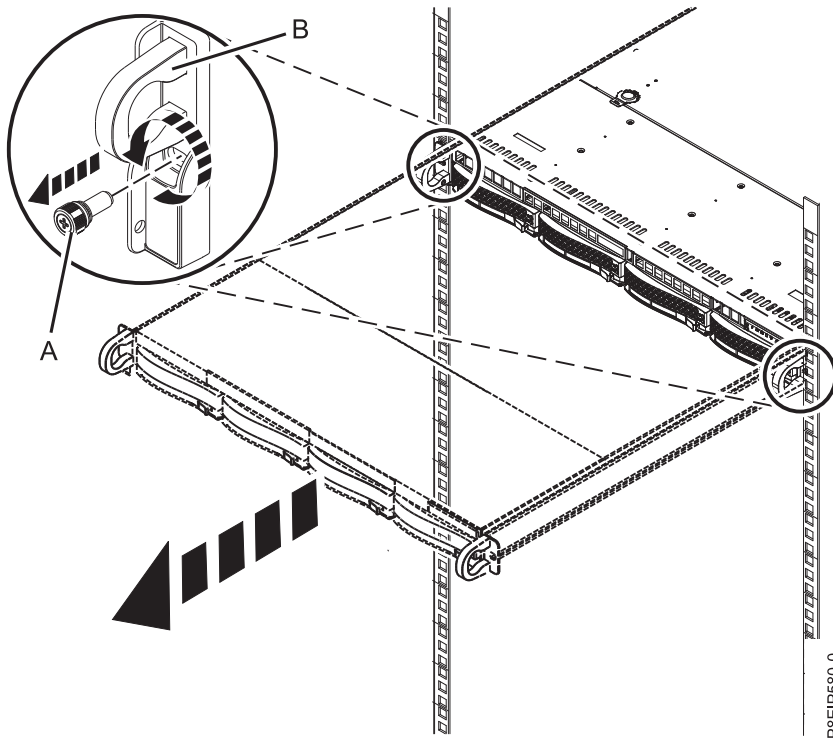

Figure 71. Removing the front screws and removing the system from the rack
2. Remove the front screws (A) that secure the system to the rack from both sides of the system as shown in Figure 71.